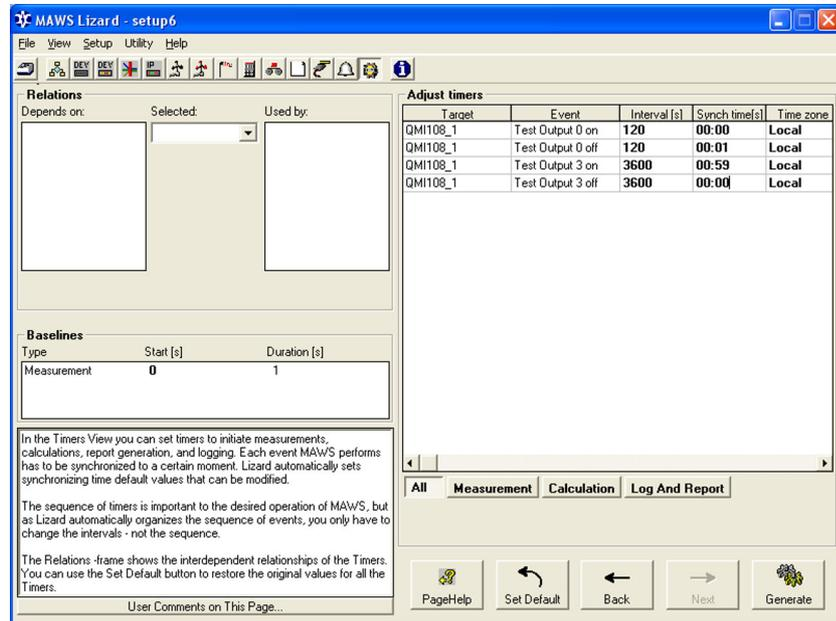

Figure 14 Timers View: Timer Configuration for the Digital Outputs
2. Proceed to the **Timers** view (see Figure 14 on page 50) to configure the on/off cycle for the selected outputs (0 and 3).
In the example in Figure 14 on page 50, the configuration is as follows: